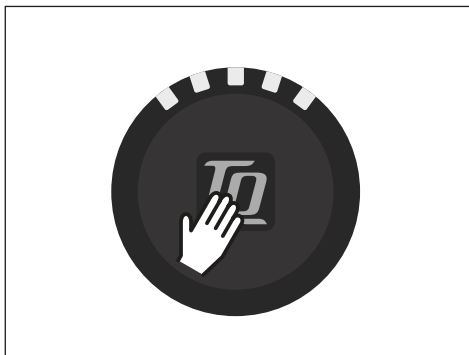

Fig. 3: Button on Display
- Switch on the drive unit by **shortly** pressing the button (see Fig. 3) on the Display.
- Switch off the drive unit by **long** pressing the button on the Display (see Fig. 3).